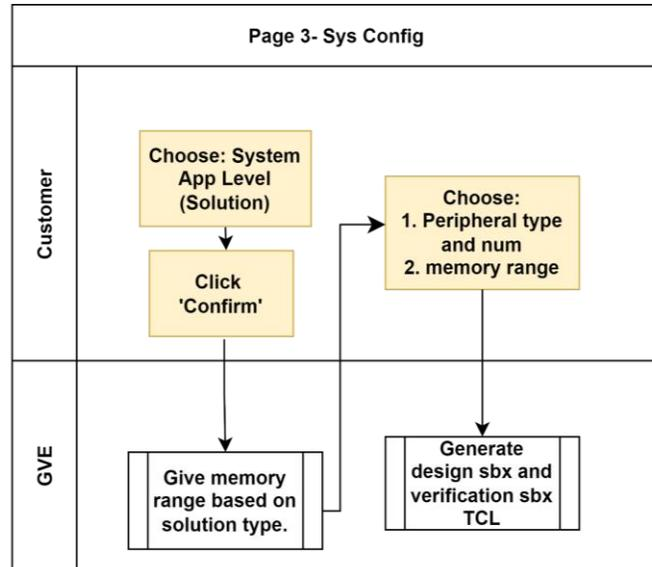

Figure 2.21. Scalable Wizard – System Configuration Page
- In System Configuration Page, there are two steps (Figure 2.21):